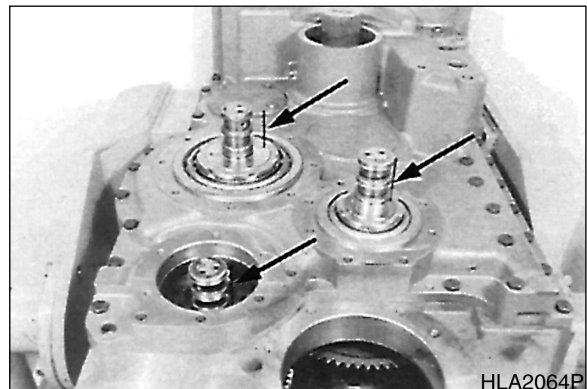

Figure 111
11. Squeeze rectangular rings (3 pieces/axle) out, see Figure 111.